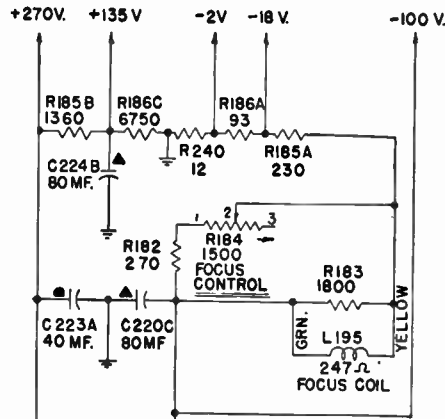

Fig. 3. Low-voltage power supply of the 9-408 and 9-408(50).
Another change in models 9-408 and 9-408(50) is found in the voltage distribution system of the low-voltage power supply units. The two ion trap coils L202 and L203 connected across R232 are removed, including the resistor. See Fig. 3.